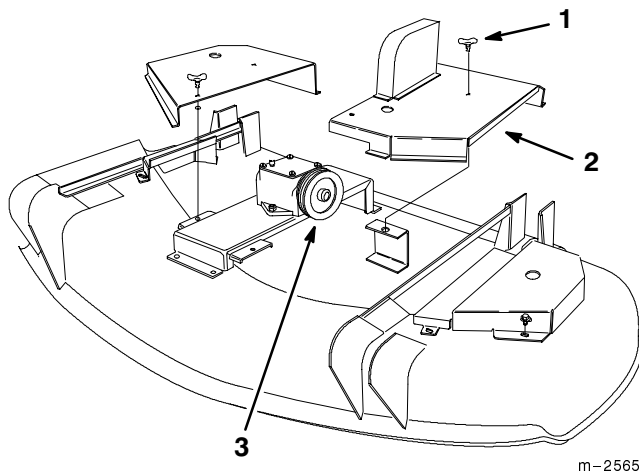

Figure 27
1. Rotate the two wing head studs on the left center deck cover 1/4 turn counterclockwise. Remove the left center deck cover to expose the gearbox input pulley (Fig. 27).
4. Reinstall the left center deck cover onto the deck, then rotate the two wing head studs 1/4 turn clockwise to secure the cover to the deck (Fig. 27).